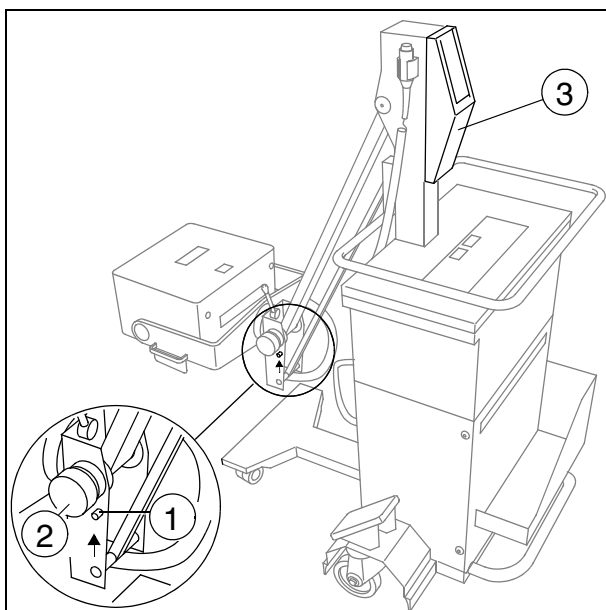

Fig. 2
- Unlock the support arm (1/Fig. 2) and loosen the knob (2/Fig. 2). The support arm **without** attached accessories should move through the entire range easily and should stop in any position. >>
- Remove the cover (3/Fig. 2) from the stand.
- Release the supplemental brake on the support arm (2/Fig. 2).